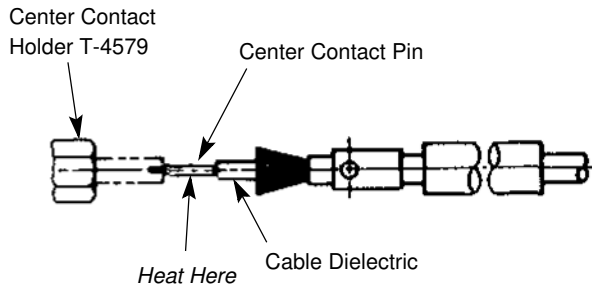

Figure 4
2.2. Soldering Center Contact to Inner Conductor (Figure 4)
2. Place center contact in center contact holder (see Figure 4)